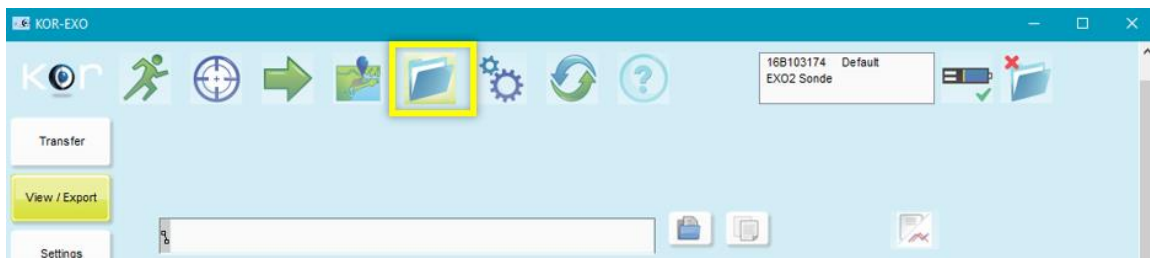

Figure 12. Select the Blue File Folder to Download the Data
1. In the KorEXO software, select the blue file folder in the top menu bar to download the data (**Figure 12**).